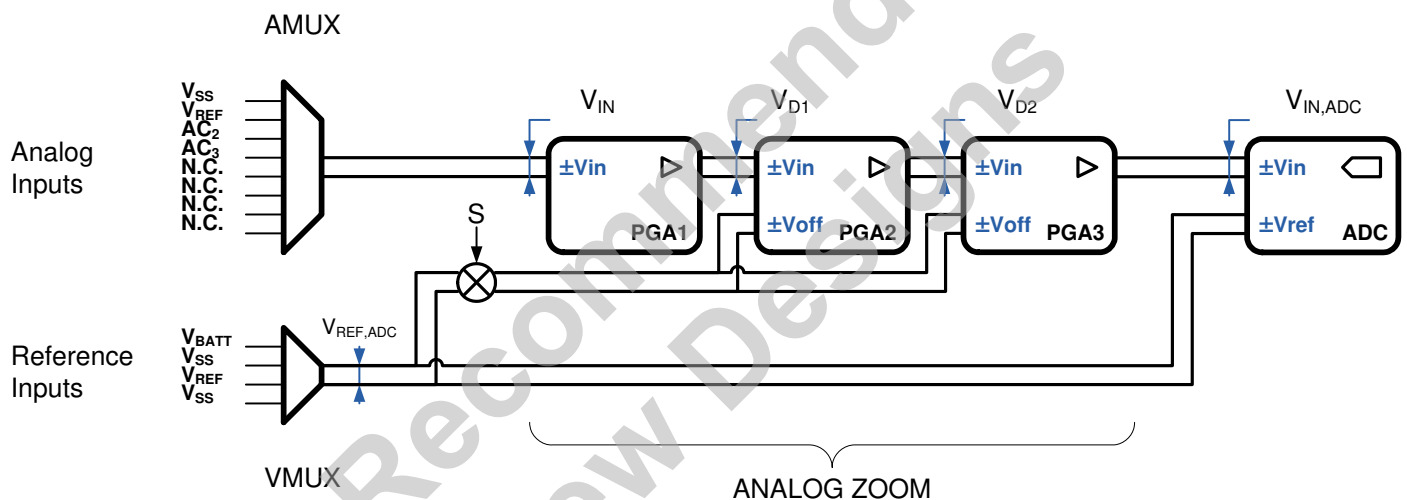

Figure 11. ZADC General Functional Block Diagram
Figure 11, page 17 shows the general block diagram of the acquisition chain (AC). A control block (not shown in Figure 11) manages all communications with the SPI peripheral. The clocking is derived from the internal 4 MHz Oscillator.
As seen in Figure 11, page 17, the zooming function is implemented with three programmable gain amplifiers (*PGA*). These are: